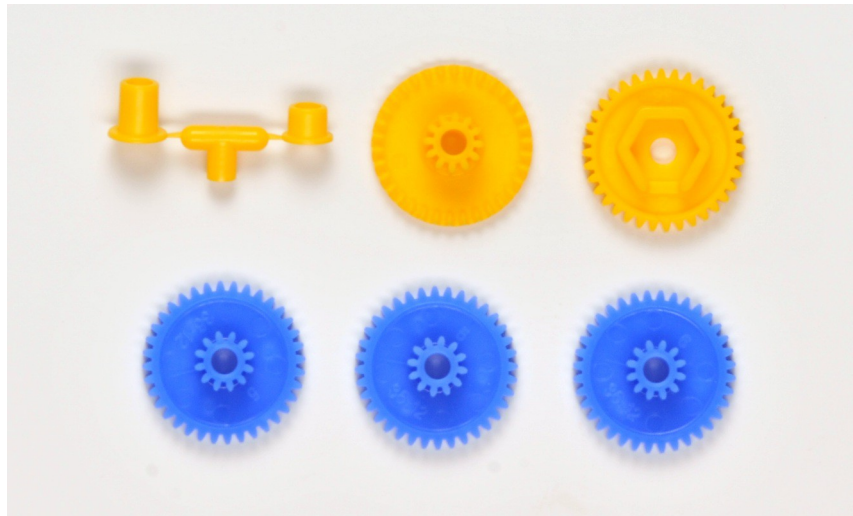

Figure 1.3
- Two (2) 4mm spacers
- One (1) hex wrench
- One (1) tube of grease
- One (1) package containing:
- Six (6) self-tapping screws approximately 17mm in length
- Two (2) tapping screws approximately 8mm in length
- Two (2) screws and nuts
- Nine (9) brass eyelets
- Three (3) grub screws (set screws)
- Two (2) motor purple pinion gears
3. Open one of the bag of gears, as shown in figure 1.3, and verify its contents.